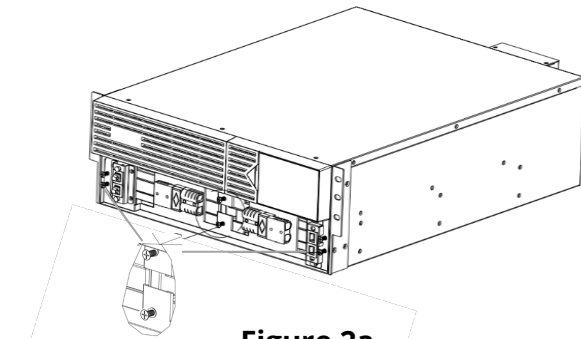

Figure 2a
2. Unscrew and remove the battery retention bracket using a Philips screwdriver. (Fig. 2a & 2b)